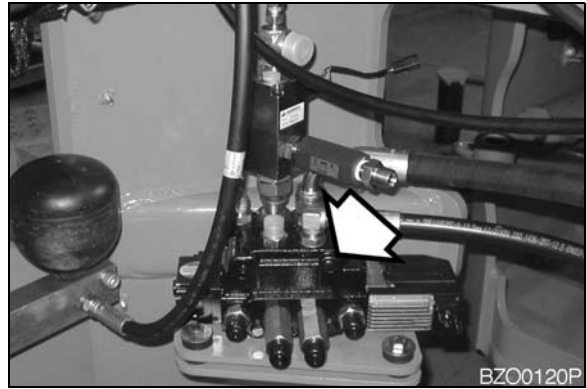

Figure 105
2. Adjust relief valve cartridge on EHPS valve (Figure 105).